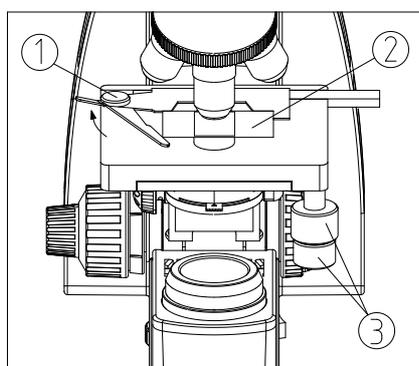

Fig.9
2. Loosen the wrench (1), and clamp the slide (2) by the clips while the cover glass faces up (see Fig. 9).
3. Rotate the X and Y-axis knob (3). Move the specimen to the center (alignment with the center of the objective).